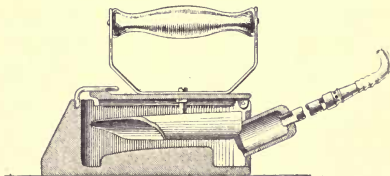

FIG. 24. — A gas-heated flatiron.
**Gas flatiron.** One simple, useful gas device is the gas-heated flatiron. In the summer a small kitchen becomes uncomfortably hot, if the flatirons are heated over the gas stove on ironing day. This excessive heat may be avoided by using a gas iron (Fig. 24). It is like an ordinary flatiron, but is made hollow to allow the use of a Bunsen